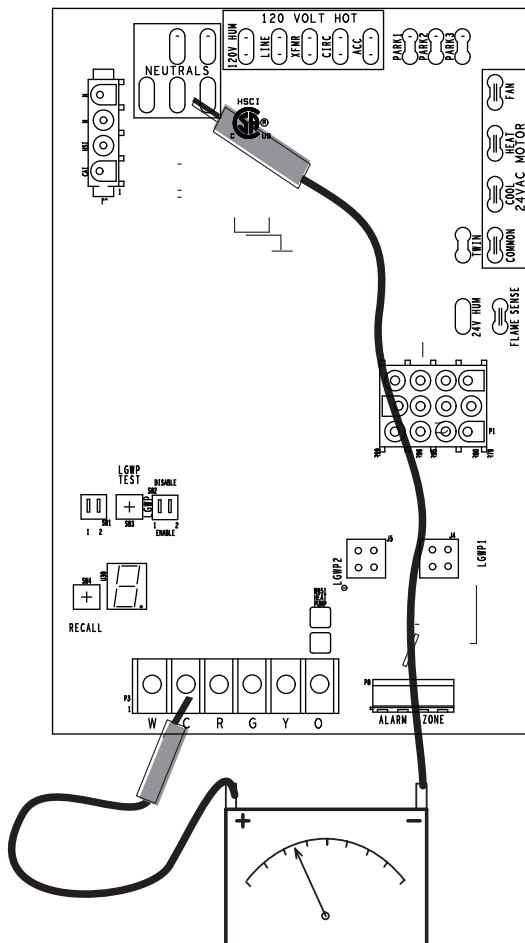

Figure 21. Check Voltage Between Line Neutral and Low Voltage "C" Terminal
1. Measure the AC voltage between Line Neutral (spade terminals) and "C" terminal (low voltage terminal block) on the integrated control. See **Figure 21**. A wide variation in the voltage between Line Neutral and "C" as a function of load indicates a poor or partial ground. Compare the readings to the table below. If the readings exceed the maximum shown in **Table 13**, make repairs before operating the furnace.